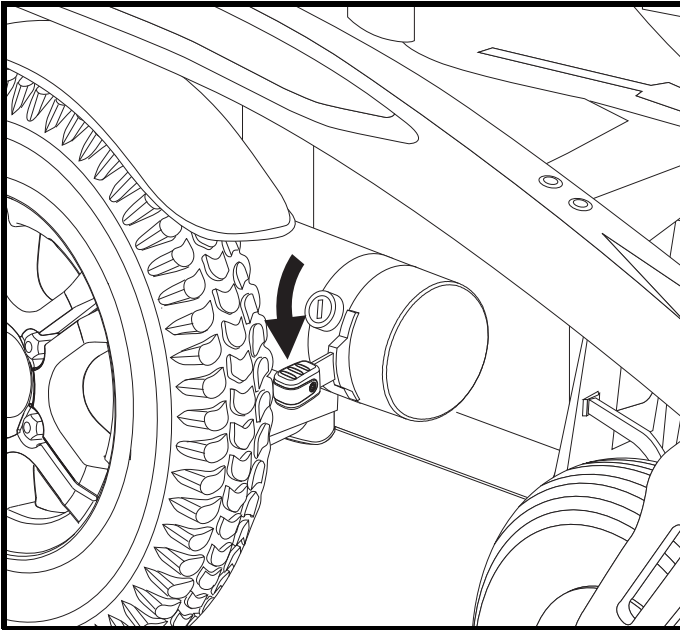

Figure 7. Freewheel Mode (Drive Disengaged)
1. Push down both manual freewheel levers for freewheel mode (drive motor disengaged). See figure 7.